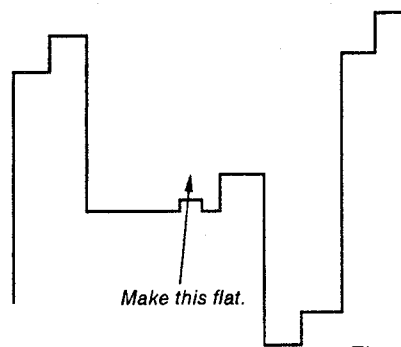

Fig. 18
- 6) Adjust **PHASE NTSC 443 NOR** so that the output waveform burst section is a straight line. (Fig. 18)